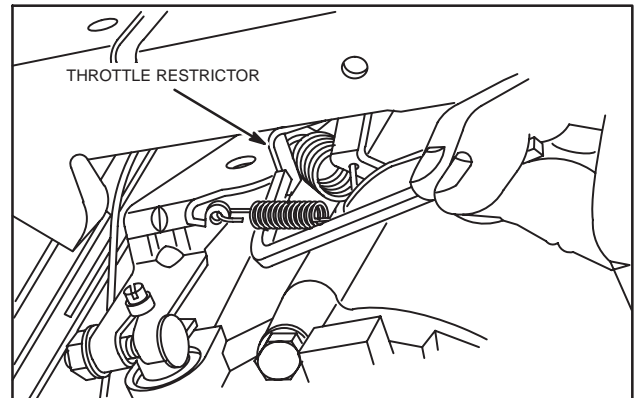

Fig. 27 – Adjust Throttle Restrictor
4. With engine running at governed idle RPM, bend throttle restrictor tang so that tang just contacts governor lever, Fig. 27.